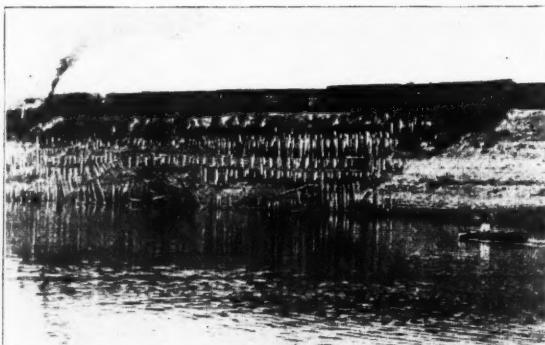

Fig. 1. Slides in Front of A. & V. Property, Vicksburg.
1. By building the masonry bridge seats out of level or by using beveled shoes of different heights under the bridge bearings, as in Fig. 1.
1. In Fig. 1 the girders are inclined from the vertical. For moderate elevation it is advocated by twelve replies. Some doubt the advisability of this inclination, on account of the action of the live load; but one thoroughly competent engineer considers that the girders in this position support the loads more conformably to the calculations. It is likely that high speed trains will strain the transverse bracing less, and slow trains more, than if the girders were vertical.
These conditions reduce us to "b" of Fig. 1 or to Fig. 4. Our replies indicate that not over 4 in. superelevation should be obtained by scheme 1; hence if more is required it should be obtained wholly by 4 or by a combination of 1 and 4.
bankments of the Yazoo Canal along the tracks of the Alabama & Vicksburg Ry., at Vicksburg, Miss., prior to 1876. This embankment was the east bank of the Mississippi river, the stream in that year having changed its course southwestward one and one-half miles. This embankment is about 40 feet above zero water and apparently has a sub-drainage during the low stage of the river, causing the bank to slide. A method for stopping the slide, suggested to us by an engineer of the United States Government, was to drive piling close together in rows, these rows being at least 50 feet apart; but this method failed in its purpose. Fig. 1 partially shows the failure of the plan. Later it was decided to drive piling in a manner similar to that of foundation work, spacing the piles from 4 to 6 feet apart in all directions, which has stopped the slide altogether. We have been unable to drive all the piling, however, on account of the low stage of the water. When the proper stage of water will permit, we will drive the balance of the piling to complete the work as planned. We have driven in this slide about 1,400 piles 35 to 40 feet long.